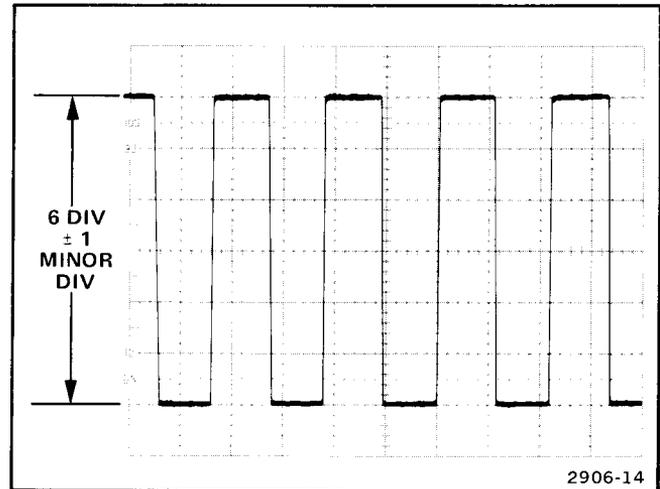

Figure 14. Vertical display accuracy.
6. CHECK—for a vertical display amplitude of 6 divisions  $\pm 0.2$  division (5.8 to 6.2 div) (see Figure 14).
3. Use the CH 1 POSITION control to vertically center the display and check for a stored display with a vertical amplitude of 6 divisions  $\pm 0.2$  divisions (5.8 to 6.2 div). (See Figure 14.)